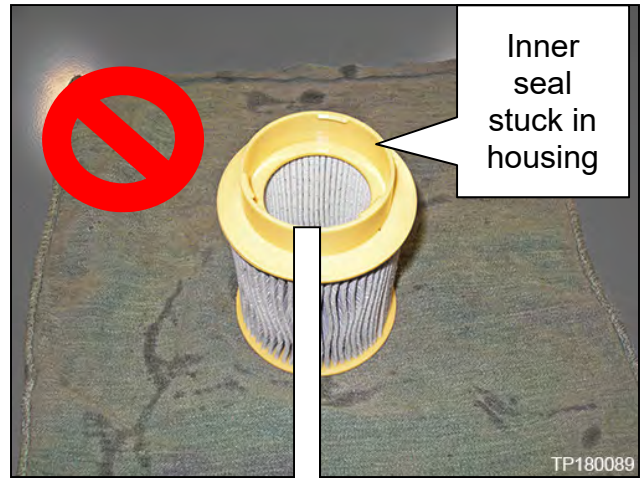
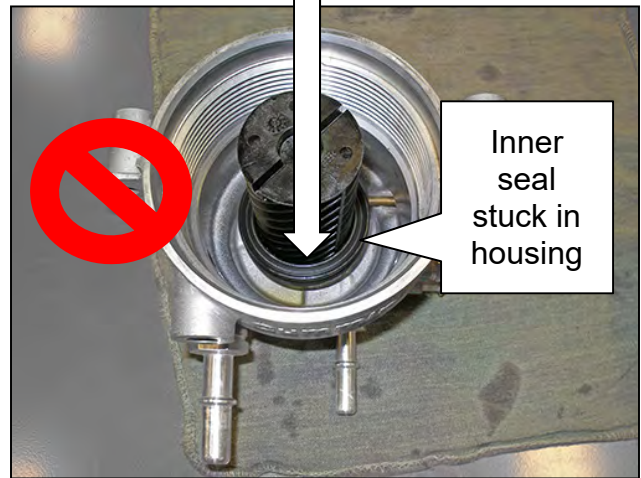

Figure 19
Figure 21
8. Inspect old fuel filter element to verify the inner seal is present. Remove inner seal from inside of the fuel filter housing (Stage 2) (Figure 21) if inner seal is missing as shown in Figure 19.